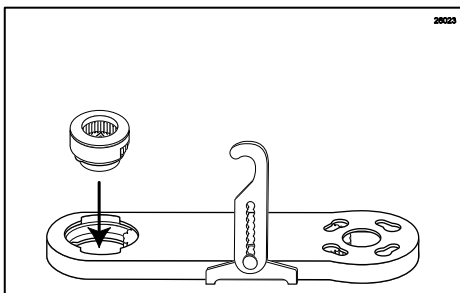

Figure 132
- Place the Gear Cartridge into the Drive Assembly Gear Box so that the gear teeth line up with the gear inside the Drive Assembly Gear Box. (See Figure 132.)